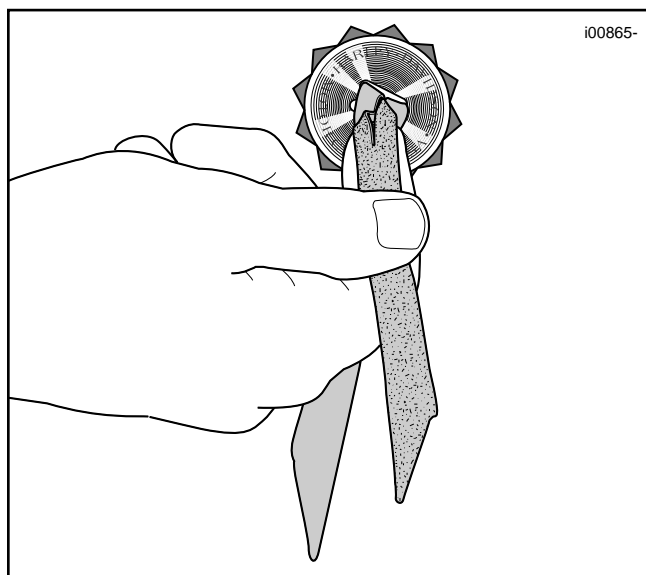

Figure 7. Twist Top (Rough) Side 1/2 Turn
4. See Figure 7. Hold the new top (rough) side as close to the medallion as you can and twist it 1/2 turn, until the smooth side is facing up. in the portion of the slit closest to you. You will now have smooth top and bottom straps. Smooth both straps downward until they lie flat.